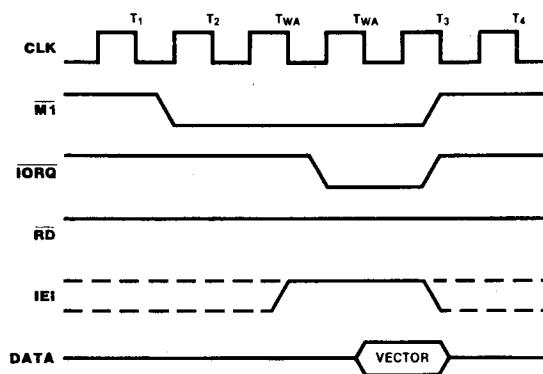

Figure 14. Interrupt Acknowledge Timing
**Interrupt Acknowledge Timing.** Figure 14 shows interrupt acknowledge timing. After an interrupt request, the Z80 CPU sends an interrupt acknowledge ( $\overline{M}_1$  and  $\overline{IORQ}$ ). All channels are inhibited from changing their interrupt request status when  $\overline{M}_1$  is active—about two clock cycles earlier than  $\overline{IORQ}$ . RD is High to distinguish this cycle from an instruction fetch.